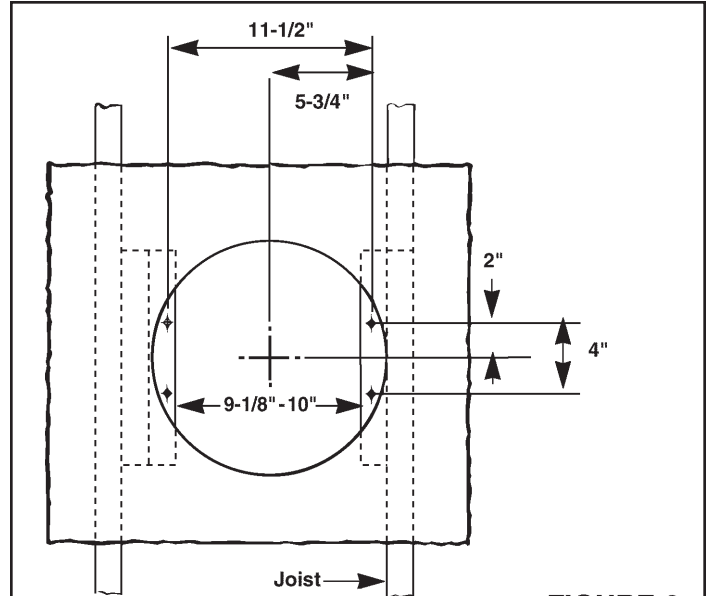

FIGURE 6
7. Refer to Figure 6. Install 2 x 4 cleats to both ceiling joists. In some cases it may be necessary to use more than a single cleat on one side. The distance between cleats must be at least 9 1/8" but not more than 10".